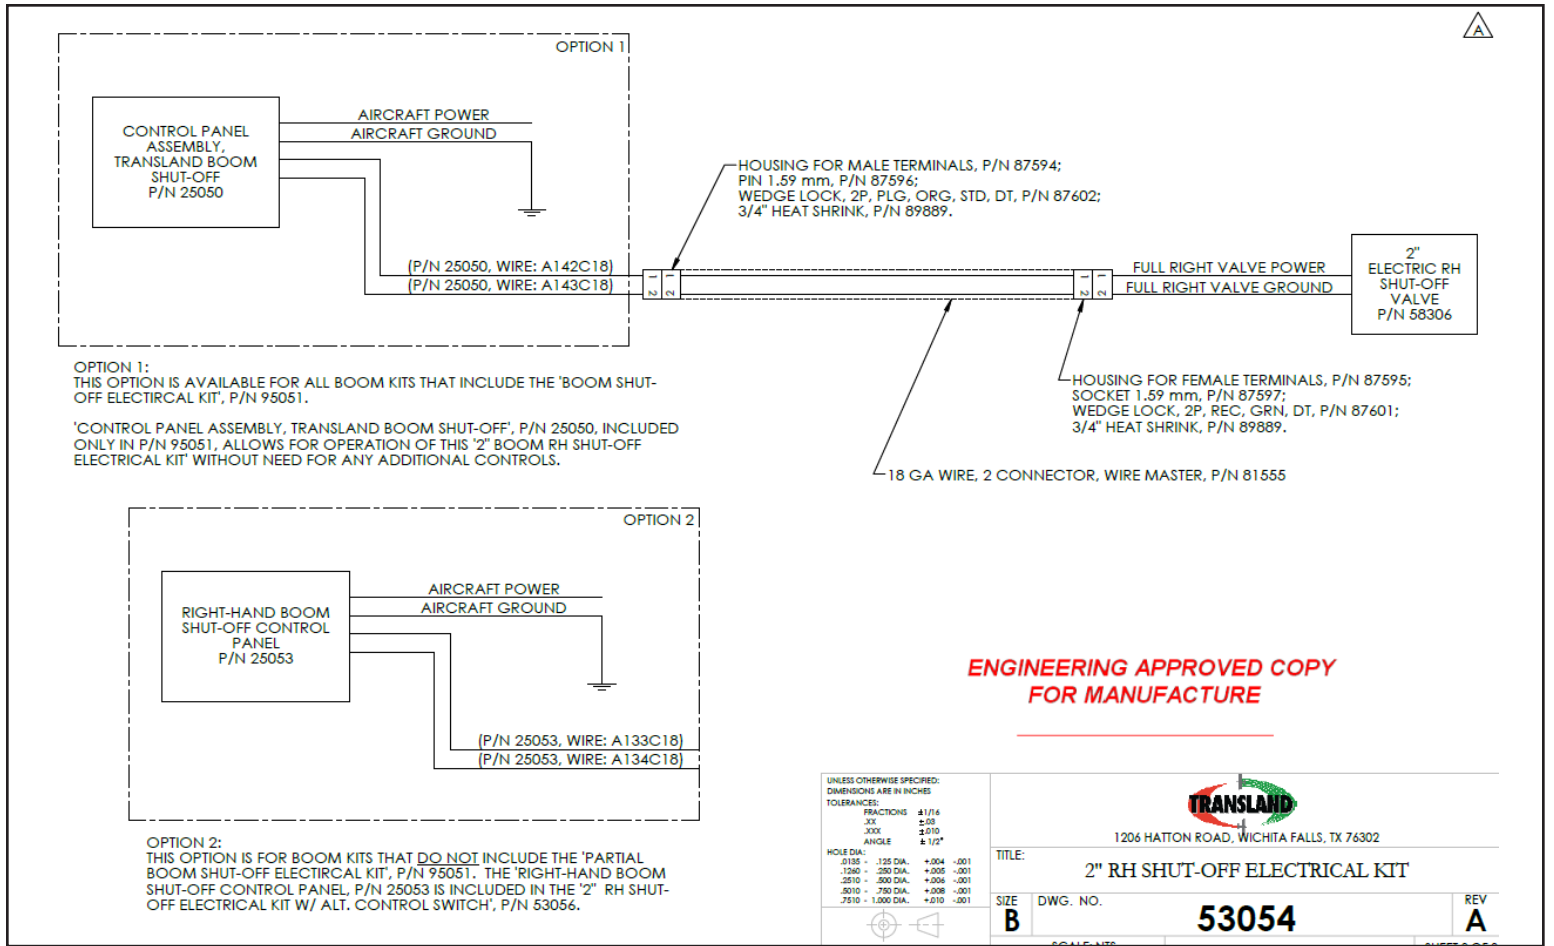
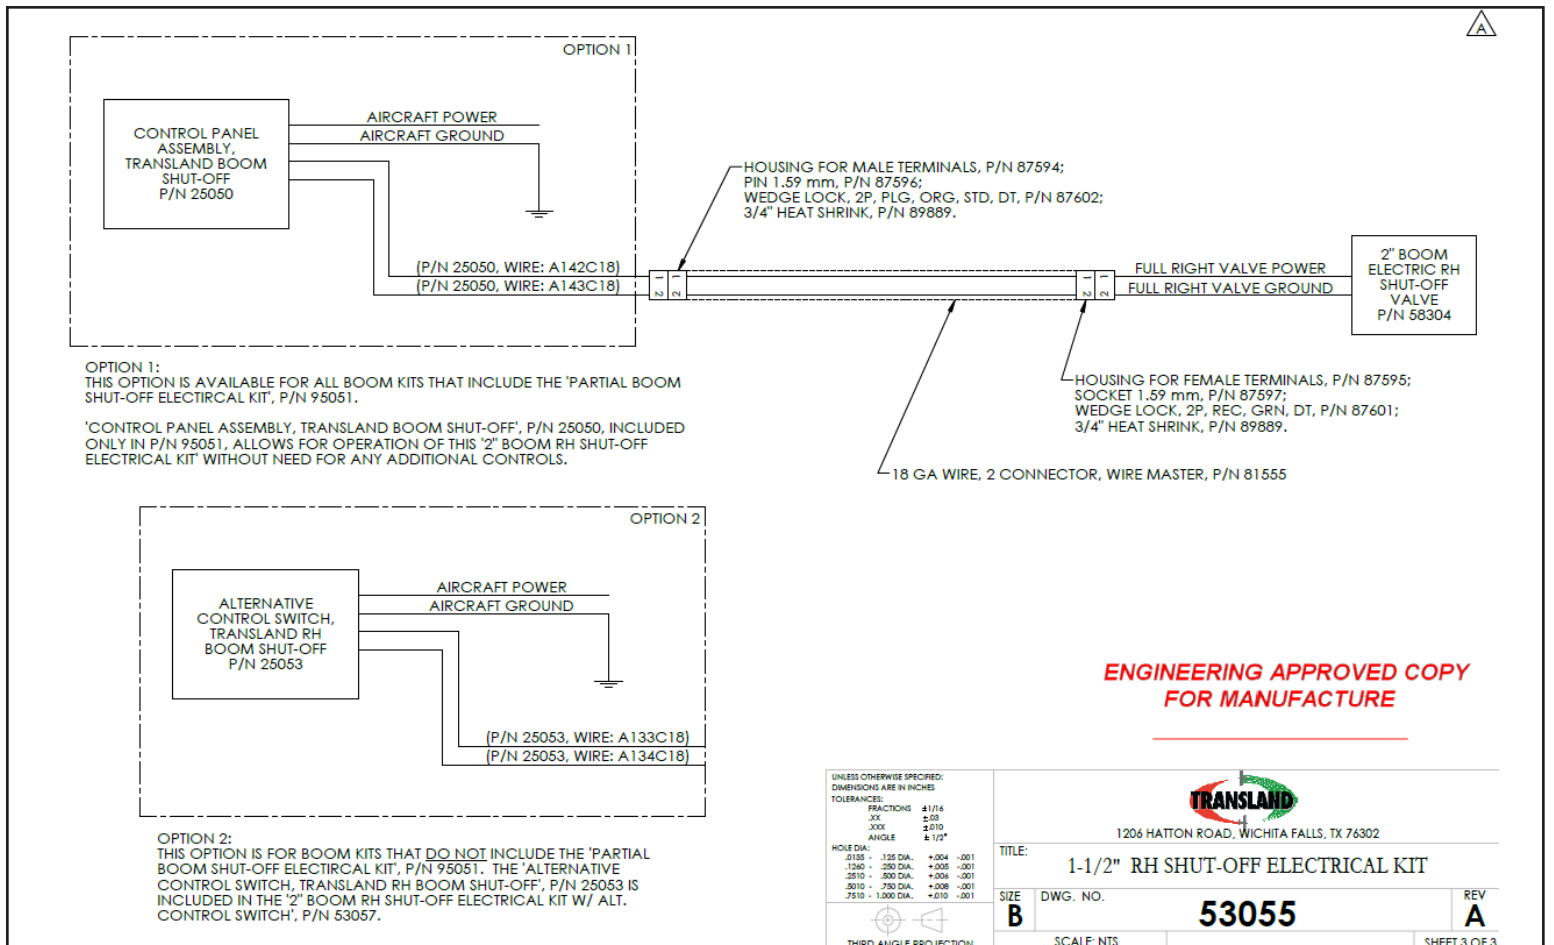

Figure 3-1: Wiring Schematic for Right-Hand Boom Shut-Off Connecting to 50% or 60% Boom Shut-Off to Valves - Using 2.5" Boom
Figure 3-2: Wiring Schematic for Right-Hand Boom Shut-Off Connecting to 50% or 60% Boom Shut-Off to Valves - Using 2" Boom
10. Install the male and female housing to the ends of the ran wire according to Figure 3-1 or Figure 3-2. Items 3, 4, and 5 are for male housing. Items 6, 7, and 8 are for female housing.
11. Crimp pins and sockets to the correct wire ends as indicated by Figure 3-1 or Figure 3-2. Use CP-463 or equivalent crimp tooling.